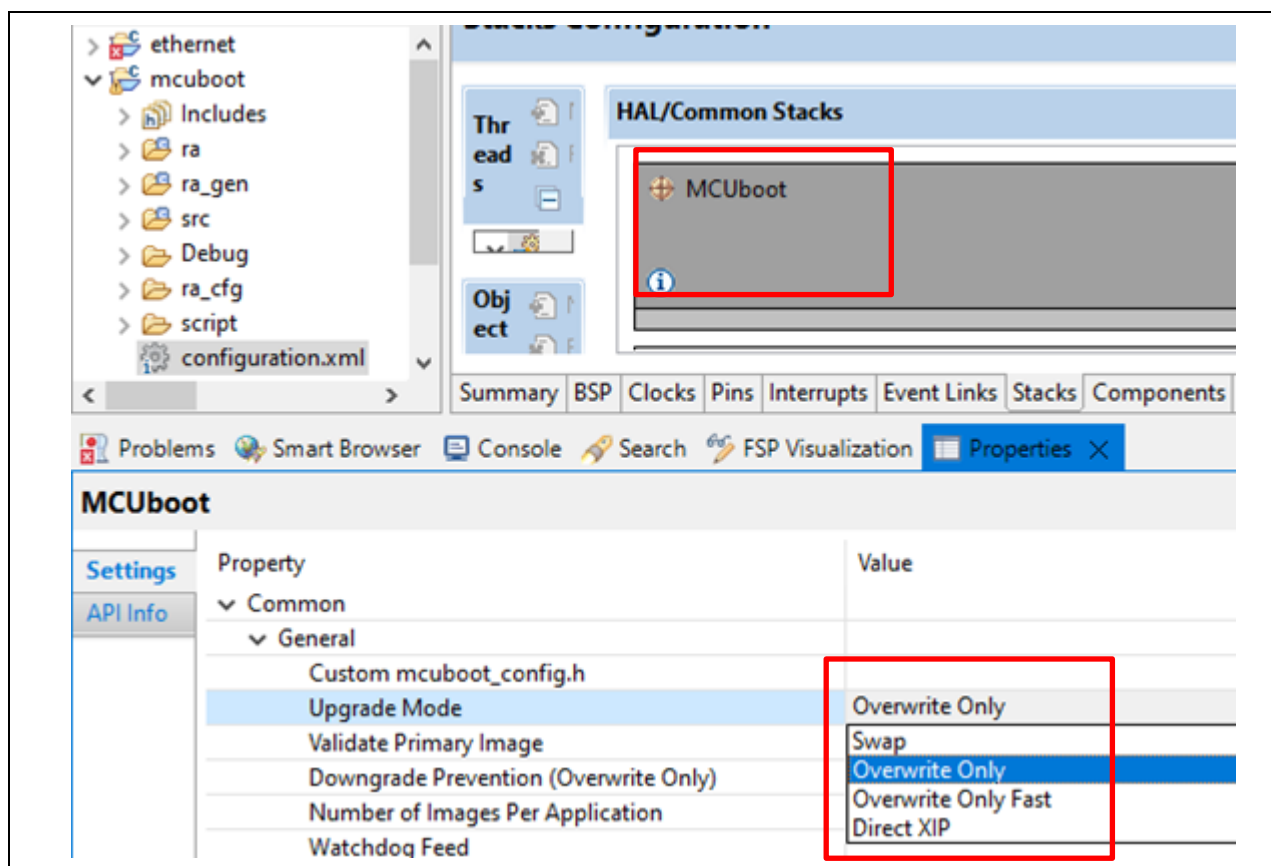

Figure 4. Application Image Update Mode
- **Upgrade Mode:** This property configures the application image update method selection explained at the beginning of section 2.2. The options are Overwrite Only, Overwrite Only Fast, Swap, and Direct XIP, as shown in Figure 4. Overwrite Only is the default setting.